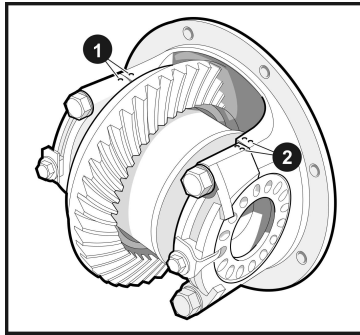

Fig. 2
1.7 Using a center punch, mark the bearing caps for reinstallation. The marks should be placed on both the bearing cap and the adjacent area of the differential carrier. On one side, make two punch marks (2); on the opposite side, make one punch mark (1), as shown in (Fig. 2).